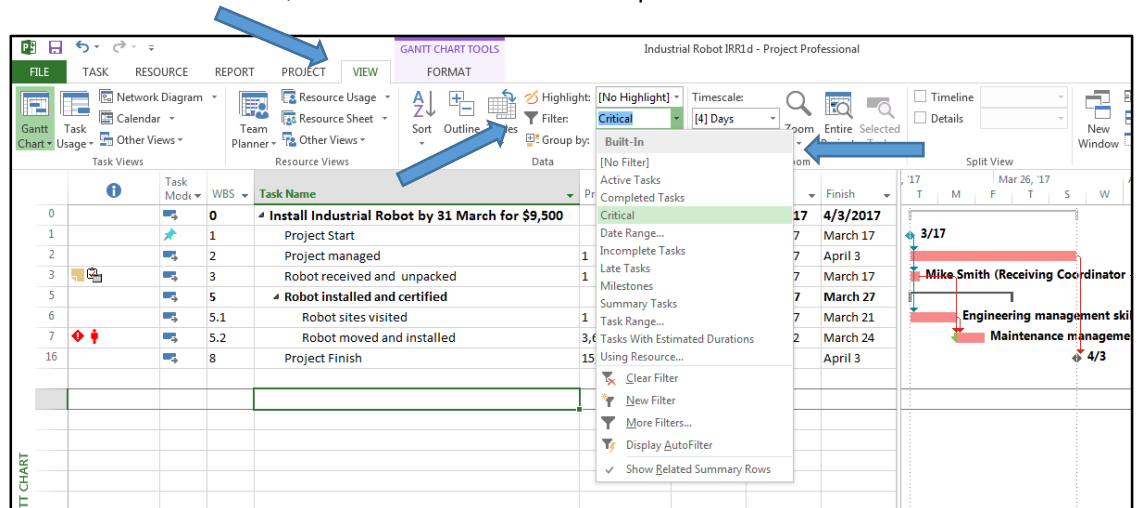

Figure 24
- A quick way to check which tasks are critical so you can quickly hone in on problem areas is to use the Filter feature. On the View tab, select Critical in the Filter drop-down box. (Figure 24)